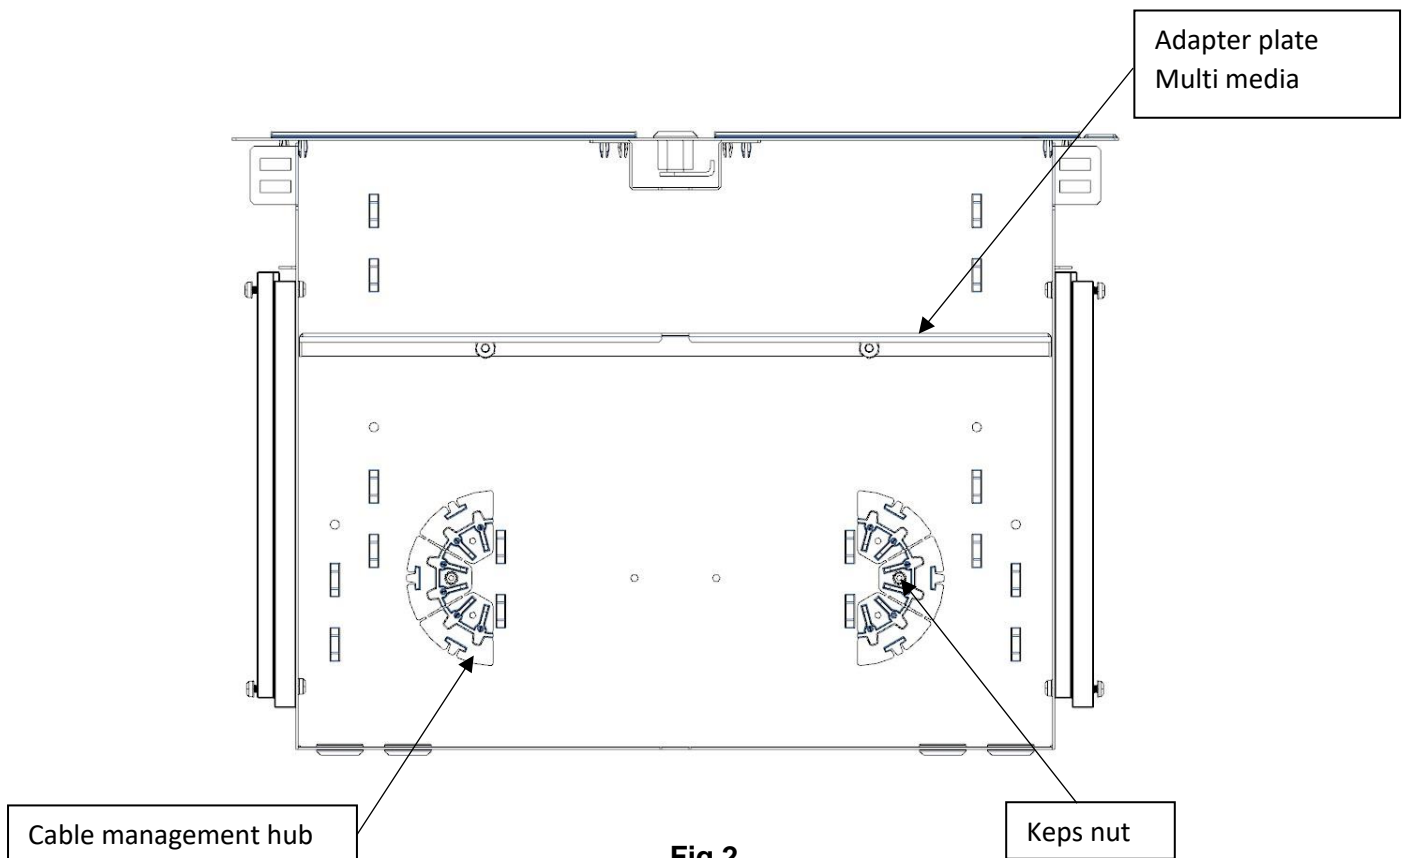

Fig.2
3.0.2 Installation of cable management hubs & adapter plate multi media panel (Fig. 2).